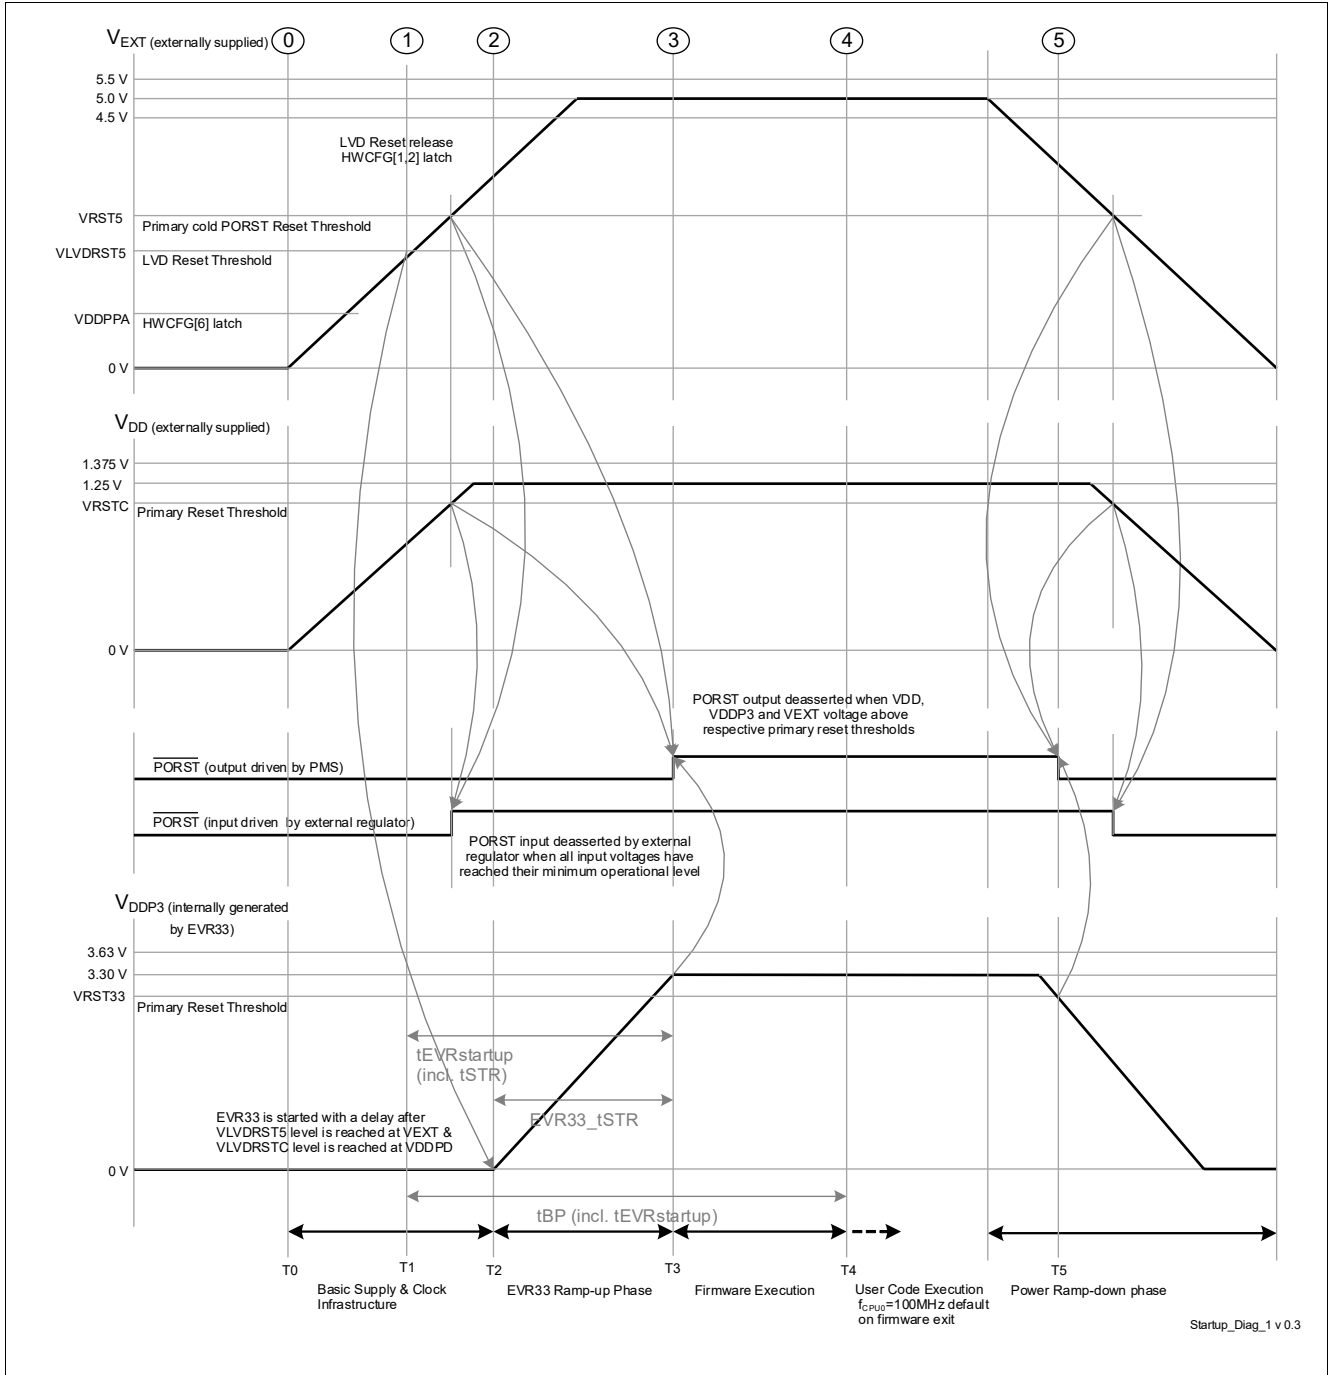

Figure 3-5 External Supply mode (d) - V_{EXT} and V_{DD} externally supplied
- The power sequence as shown in **Figure 3-5** is enumerated below